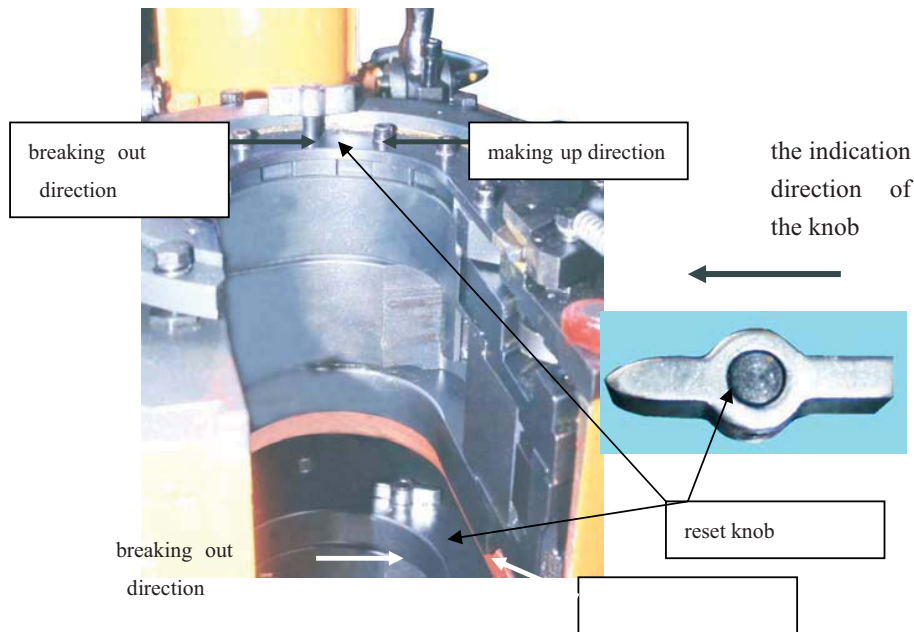

Fig18
- Turn the reset knobs of the master tong and backup tong to the making-up direction, make sure the knobs point in the same direction. (Fig18)